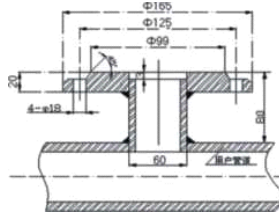

Figure 3 Mounting the base
Before installation, a small hole with a diameter of 60mm should be opened in the pipe under test, the size is the same as the outer diameter of the connecting pipe of the mounting base, and the welding between the mounting base and the pipe under test is shown in Figure 3.
5.2.4 Install the DN50 ball valve on the mounting base as shown in Figure 3. Note that the long cavity of the ball valve is upward, and check whether the ball valve can be fully opened and closed tightly.